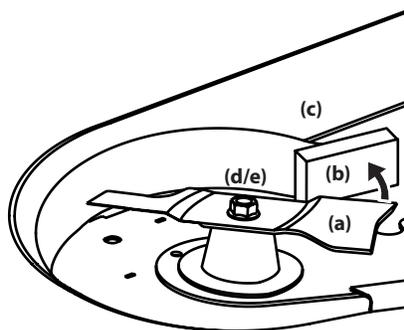

Figure 4-17
- Wrap a rag around one end of the blade (a) and grasp it to prevent it from turning, or secure the blade (a) by placing a block of wood (b) between the blade (a) and the deck housing (c). See Figure 4-17.